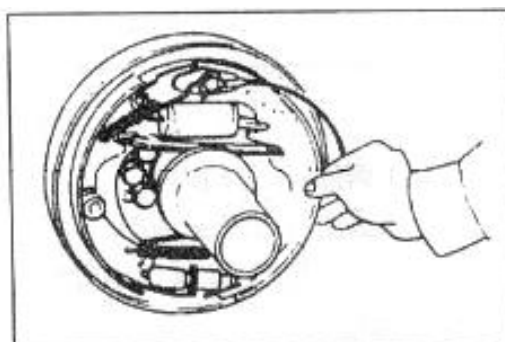

Fig 6-10
(4) Detach the primary brake shoe and the secondary brake shoe, and at the same time remove the spring for adjuster. (Fig 6-10)